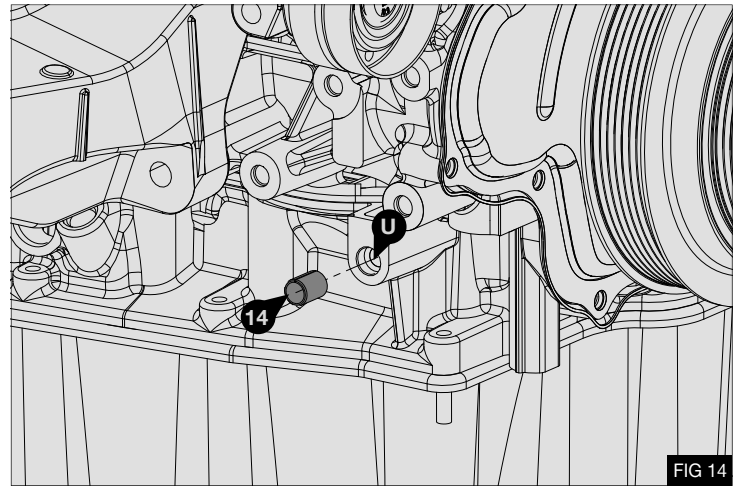

FIG 14
1. Install the supplied location dowel ⑭ into the point shown on the engine ⑮ - Fig 14